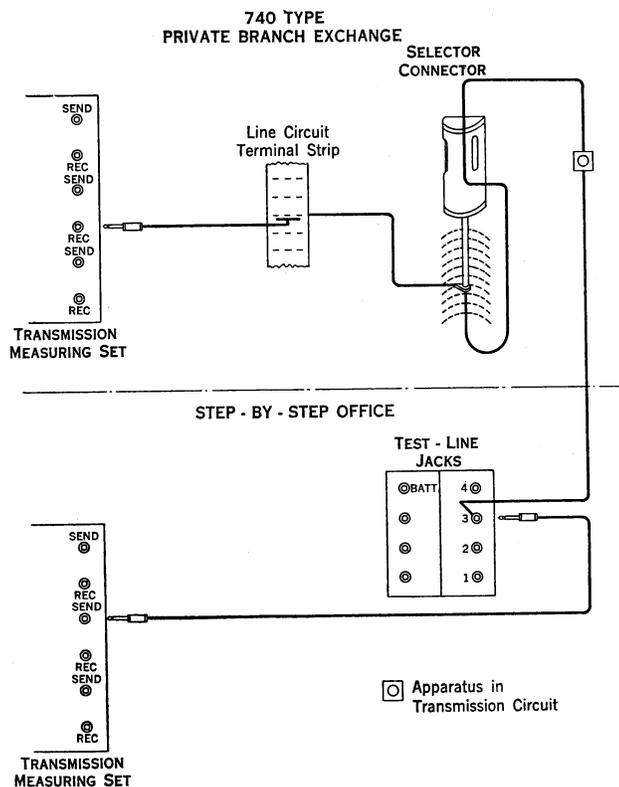

Figure 5
2.71 Figure 5 shows schematically the connections for the test.